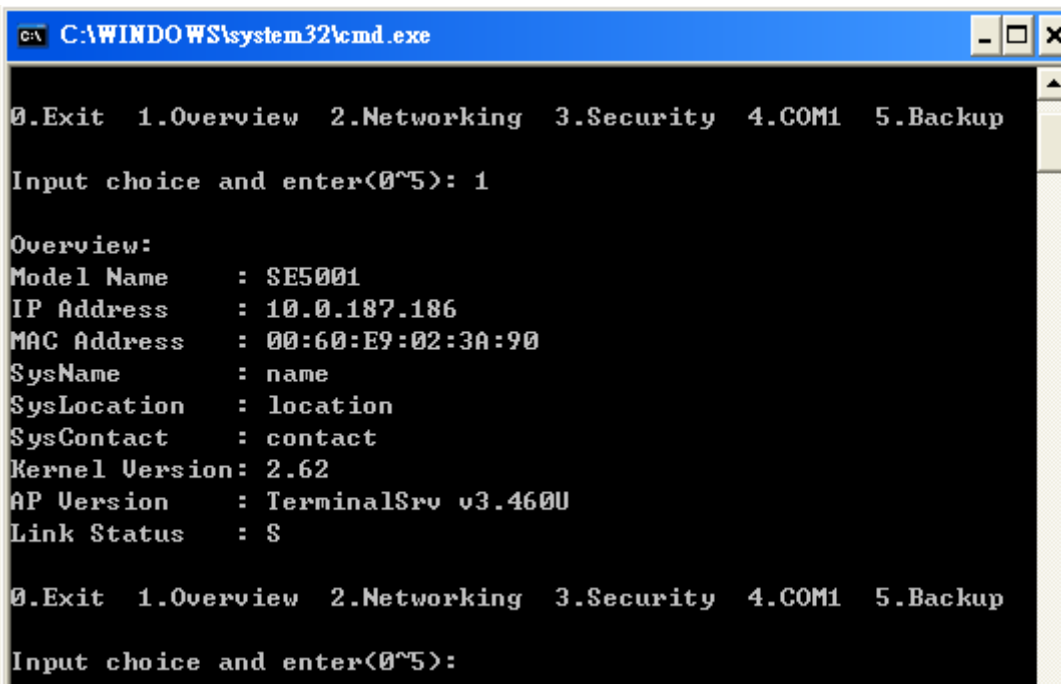

Figure 3.6 Overview
->Select “1” from “Input choice and enter (0~4):” to enter “Overview” (Figure 3.6):